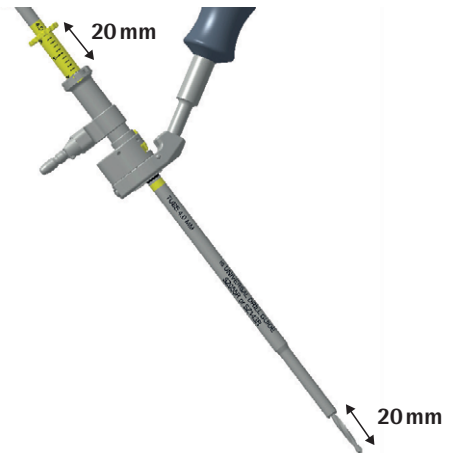

Fig. 8
- ▶ Insert the required drill into the guide up to the positive stop and verify the exposed length of the drill with a caliper (e.g. AA845R), see Fig. 8.